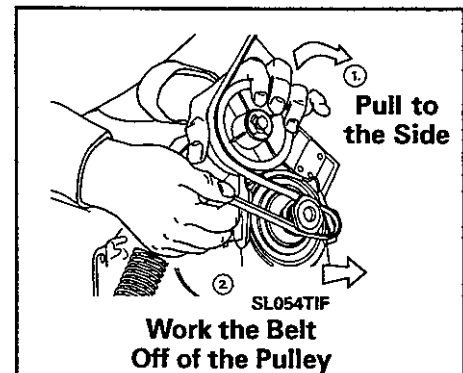

Figure 10-8
- Grasp the idler pulley in left hand, pull idler upward and to the left. **Note:** *There is a built-in stop to prevent overstressing of the idler arm spring.* Slip belt off the motor pulley (Figure 10-8).